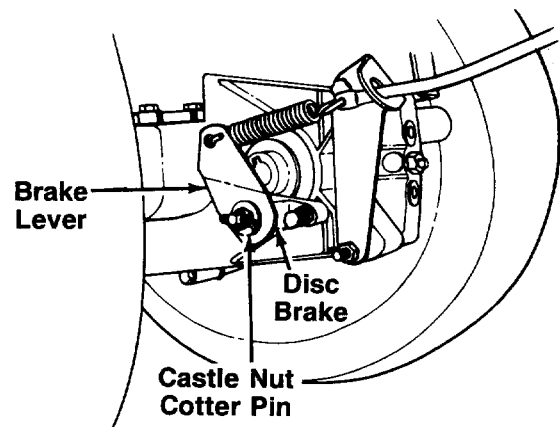

FIGURE 17.
## BRAKE ADJUSTMENT (See figure 17)
**NOTE:** Figure 17 is shown with the unit tipped up on rear wheels for clarity only.